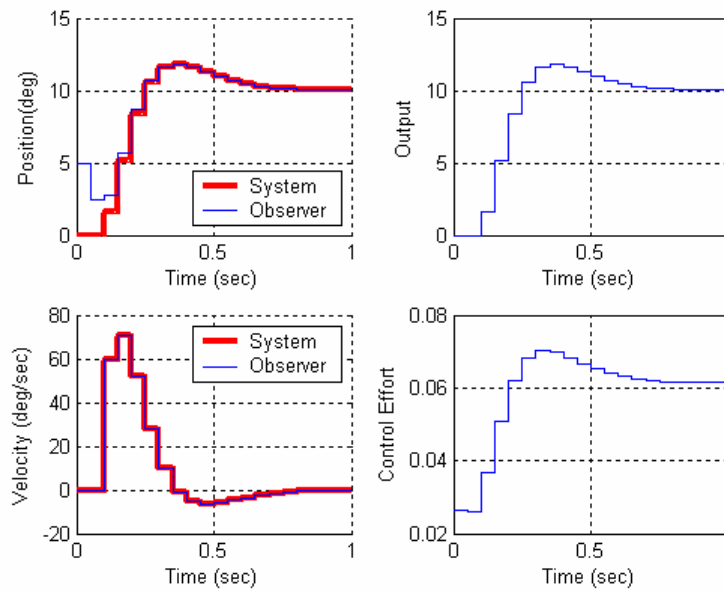

Figure 2. Results for part 1e.
e) Now assume the same condition as in part c, but place the observer poles at 0.45, 0.5, and 0.55 (you will need to use the **place** command to place the poles.) Assume both the position of the first disk (state 1) and the delayed control signal (state 3) are available to the observer. (*Hint: C is a 2x3 matrix*) However, the output is still the position of the first disk. Simulate your system, you should get a result like that in Figure 2. Note that the observer has more information to work with here, so it does a better job of estimating the states. Turn in your plot.